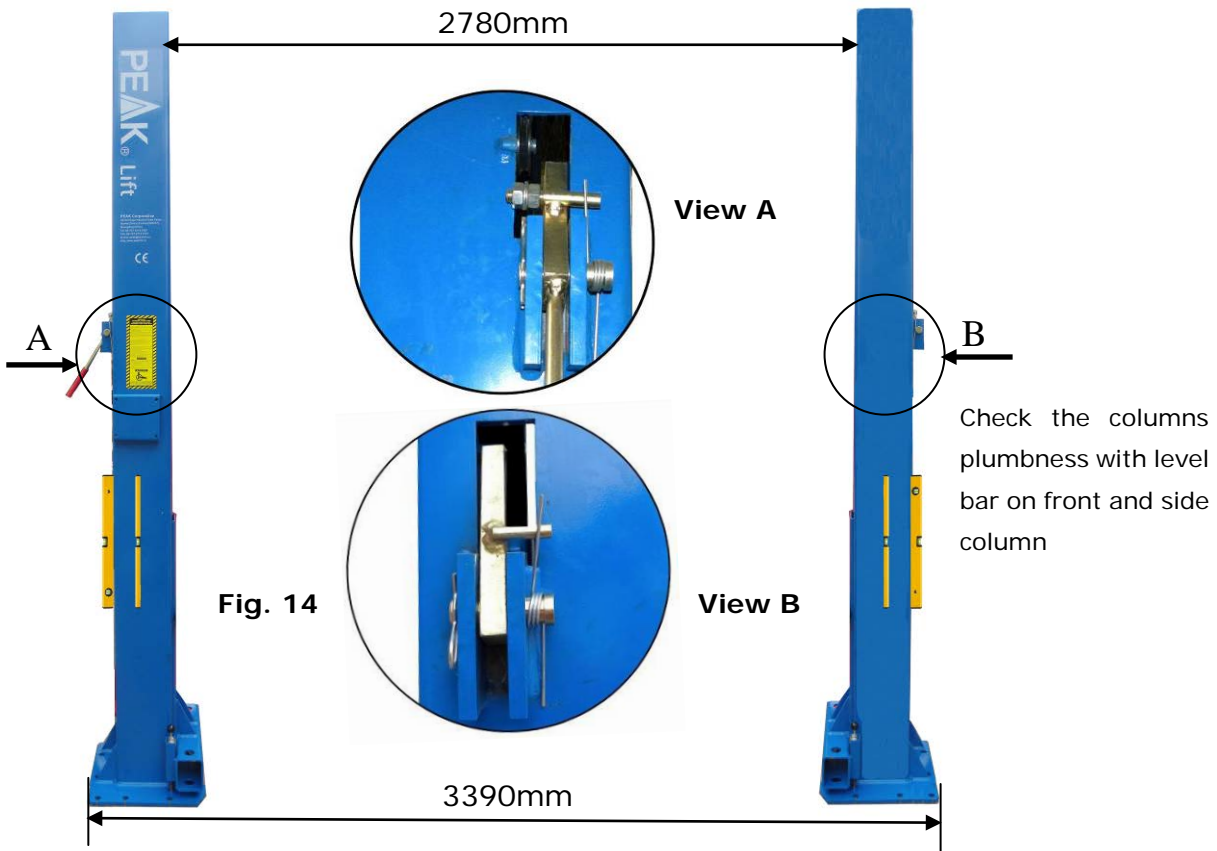

Fig. 14
F. Position columns and install safety device (See Fig. 14).